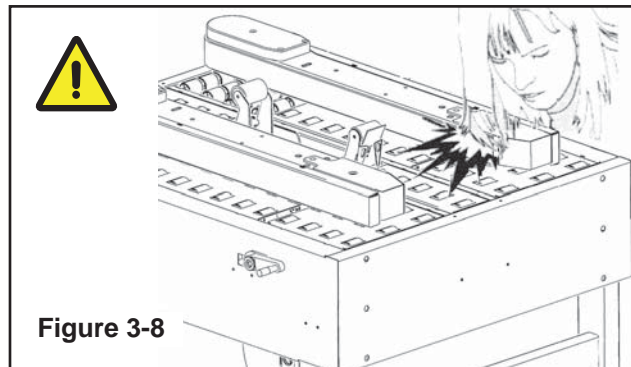

Figure 3-8
**Important!** Drive belts. Never work on the machine with loose hair or loose garments such as scarfs, ties or sleeves (**Figure 3-8**).